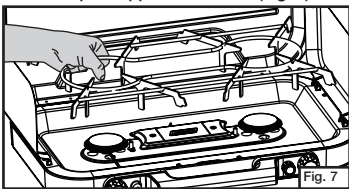

Fig. 7
- Install pot support as shown. (Fig. 7)